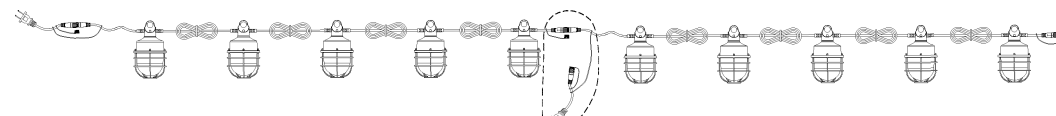

Figure 5
2. Connect the fixtures together (Figure 5), and repeat to connect more fixtures. See the maximum quantity of connections for each fixture below.